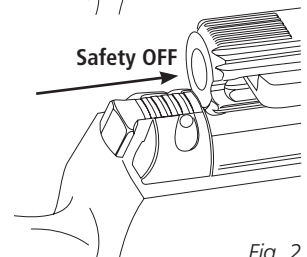

Fig. 2
- To remove the safety to "OFF", push safety button. In this position, the gun is ready to shoot (Fig. 2).